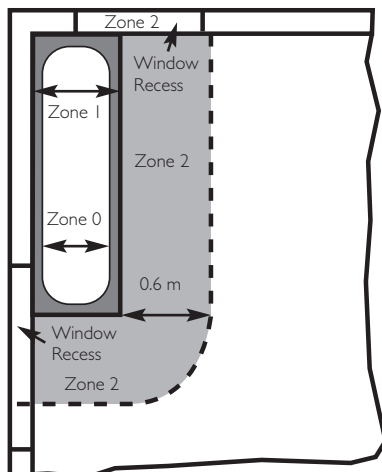

Fig. 11 In GB Only
1. If the boiler is fitted in a room containing a bath or shower and **NOT FITTED** with any optional integral device it can be fitted in zone 2, (Figs. 11 & 12 show zone dimensions for a bathtub. For other examples refer to the Current I.E.E. Wiring Regulations) reference must be made to the relevant requirements. In GB this is the current I.E.E. Wiring Regulations and Building Regulations. In IE reference should be made to the current edition of I.S. 813 "Domestic Gas Installations" and the current ETCI